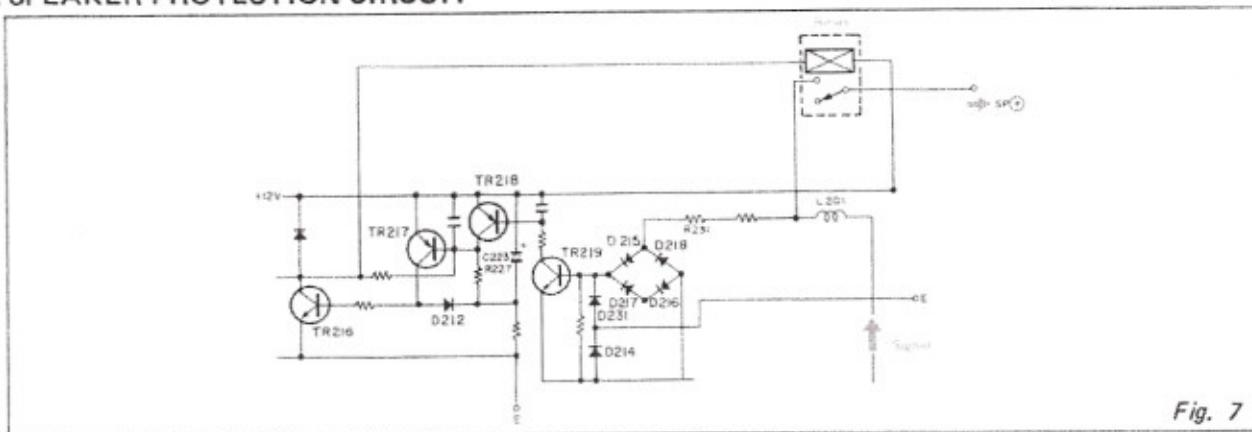

Fig. 7
- In the B-2, the relays operate approximately 3 seconds from the instant the power supply switch is turned on and the circuit will be in ON condition. As current (approximately 100mA) will not flow through the relays while the potential (0.6V) between the emitter and base of TR217 is varying, that is, while C223 is being charged, the relays will not be in ON condition and no sound will be emitted. Since TR217 will not turn ON at the instant that the power supply switch is entered (potential between base and emitter insufficient), the relays will not be in ON condition. However, when C223 is sufficiently charged to operate TR217, TR216 will operate in ON direction, current will commence to flow in the relays and the circuit will be in ON condition. (Figure 7)